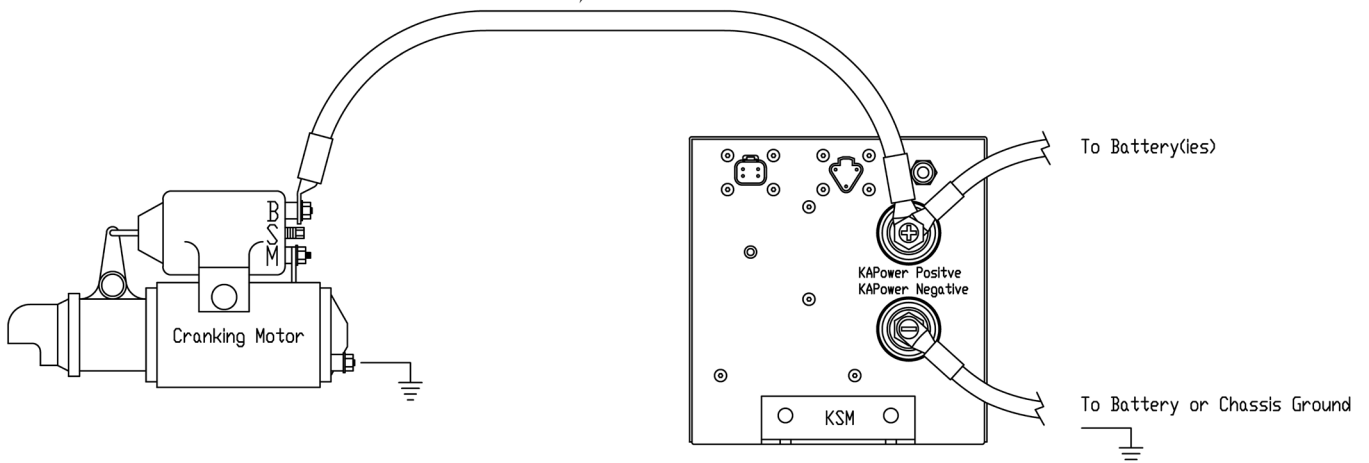

Figure 2: Typical Cable Installations
1. Before activation, confirm, using the wiring diagrams on Figure 2 (page 10), and figure 5 (page 14), that the KSM module has been properly installed.